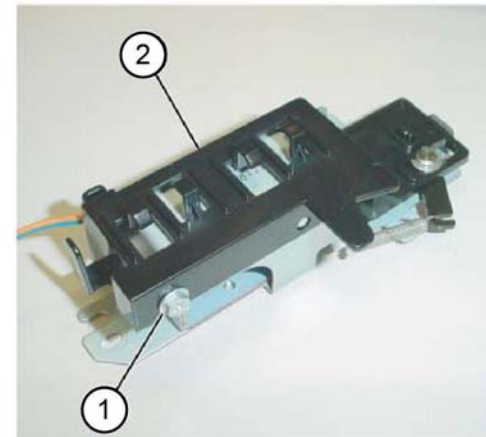

Figure 3 Support removal
8. Remove the support, Figure 3:
- a. Remove the screw (1).
- b. Remove the support (2).